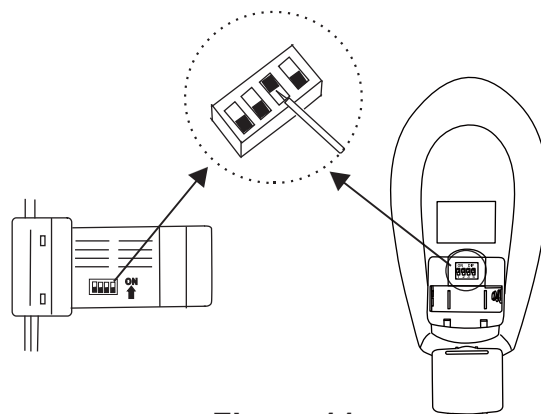

Figure 11
**NOTE:** The Hand Held Remote Control units included with your ceiling fan are equipped with 16 code combinations to prevent possible interference from or to other remote units. The frequency switches on your Receiver and Transmitter units have been preset at the factory. Please re-check to make sure the switches on both units are set to the same positions. The frequency settings should be changed only in case of interference or if a second or more remote controlled ceiling fans are installed in the same room. Any code combination will operate the ceiling fan and light as long as the Receiver and Transmitter units are set to the same codes (Fig. 11)